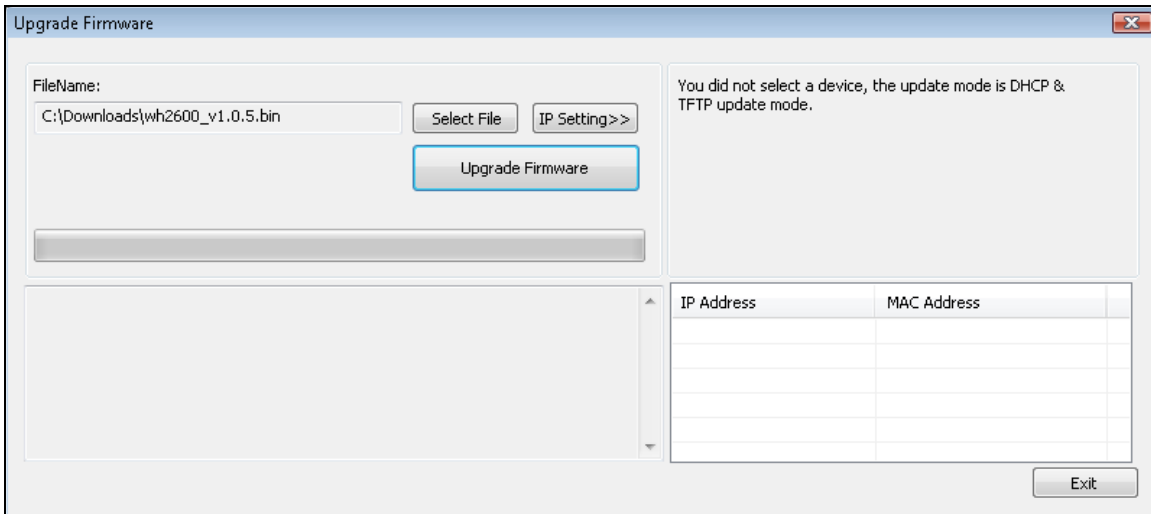
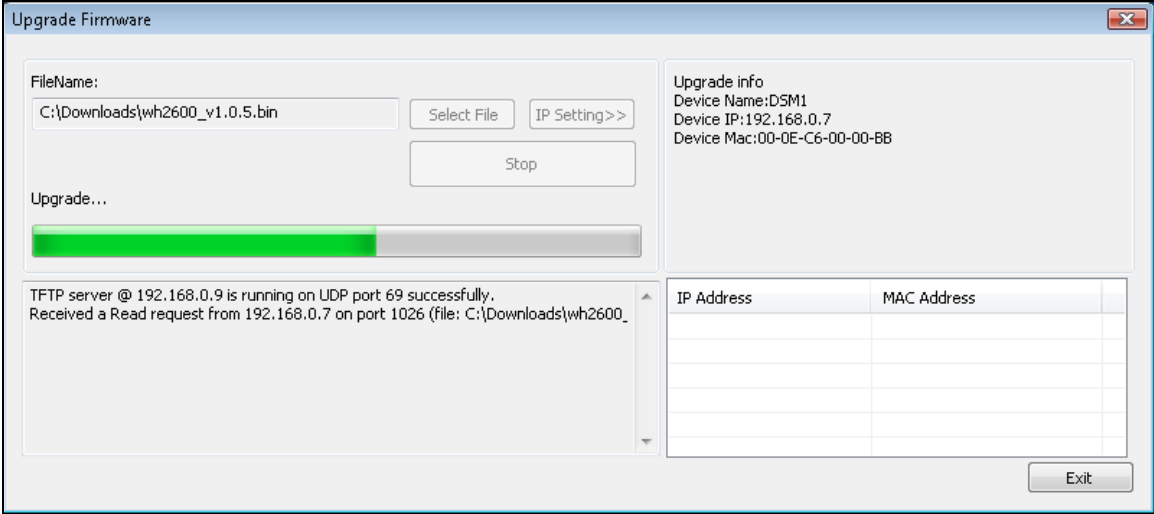

Figure 32
Figure 33
4. Reference Figure 32. Select the **Select File** button, and browse to the location of the file you downloaded in Step 1.
5. Select the Upgrade **Firmware** button. Reference Figure 33. The dialog box will display **Received a Read Request** from the ObserverIP module. A green progress bar will provide you with the upgrade status.
<p>Only the Power, Link and ACT lights are lit and the ObserverIP module does not communicate to the server.</p>	<p>The firmware will need to be reloaded.</p> <ol style="list-style-type: none"> 1. Download the latest firmware here: 2. Power down the ObserverIP module but leave connected to your router. 3. Launch the IP Tools application as referenced in Section 3.9. Since the module is powered down, you will not be able to locate it on your network, but proceed anyway. 4. Select the Upgrade button. 5. Reference Figure 32. Select the Select File button, and browse to the location of the file you downloaded in Step 1. 6. Select the Upgrade Firmware button. 7. Plug in the ObserverIP module. The software will locate the device on your network and begin the update. <p>Reference Figure 33. The dialog box will display Received a Read Request from the ObserverIP module. A green progress bar will provide you with the upgrade status.</p> <p>DO NOT OPERATE THE MOUSE OR KEYBOARD WHEN UPGRADING to prevent interruption of the upgrade.</p>